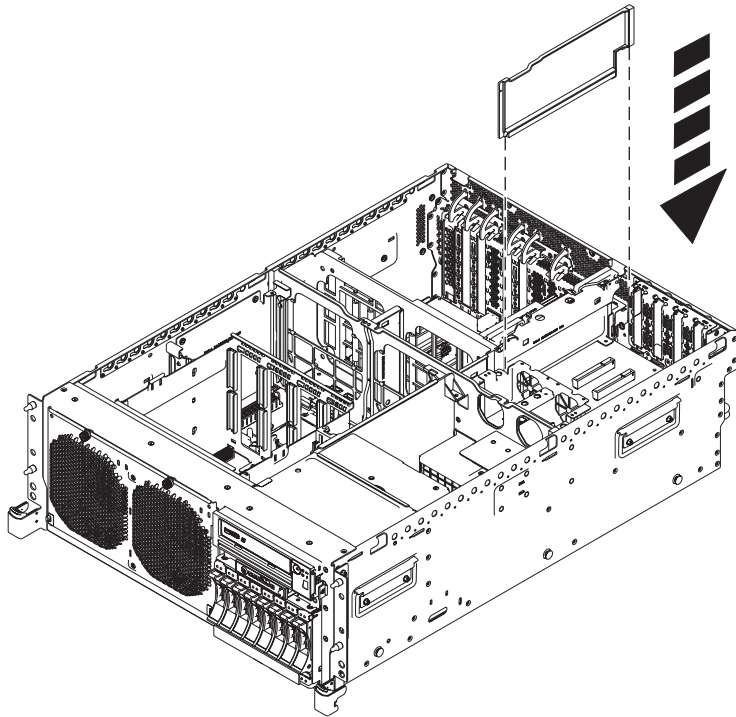

Figure 42. Installing an expansion riser air baffle in a rack-mounted system unit
16. If you do not plan to install another expansion riser into the vacated slot, insert a black plastic air baffle as shown in Figure 42 on page 51.